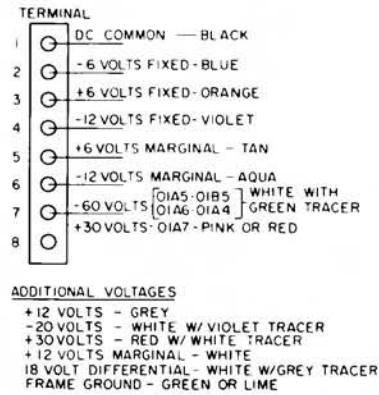

Figure 15. Voltage Terminal Block
3. Select one of the affected gates. Drop the power and make the following changes at gate voltage terminal block. (Refer to Figure 15 located to the left of Row A.)
- b. Disconnect the external voltage (violet) wire and connect one end of the jumper to the  $-12$  volt terminal on the gate voltage terminal block (Figure 15). Be certain the violet wire is positioned so that it does not short to frame, or other connections.